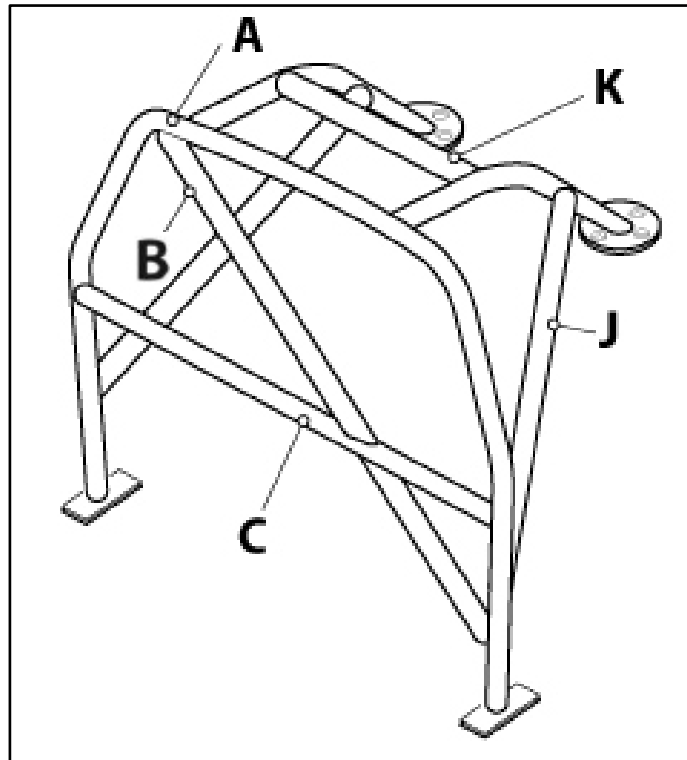

Figure 7 (above): Component K is required if Rear Stays are bent.
- E. **Diagonal Support within the Main Hoop is highly recommended, see Fig 7, component B.**
- 7.3 A single Side Intrusion Bar (D) on the driver's side is the minimum acceptable only if no passenger is present. If a passenger is present, then a Side Intrusion Bar is also required on the passenger's side of the vehicle.
- G. Diagonal Support within the Main Hoop is **highly** recommended, see Fig 7, component B.
- 12.3 In a Four Point Rollcage, a straight Taxi Bar must be reinforced with a Diagonal Brace as per Figure 7, component B. This is optional but highly recommended for a Six Point Rollcage and a Single Rollover Hoop.